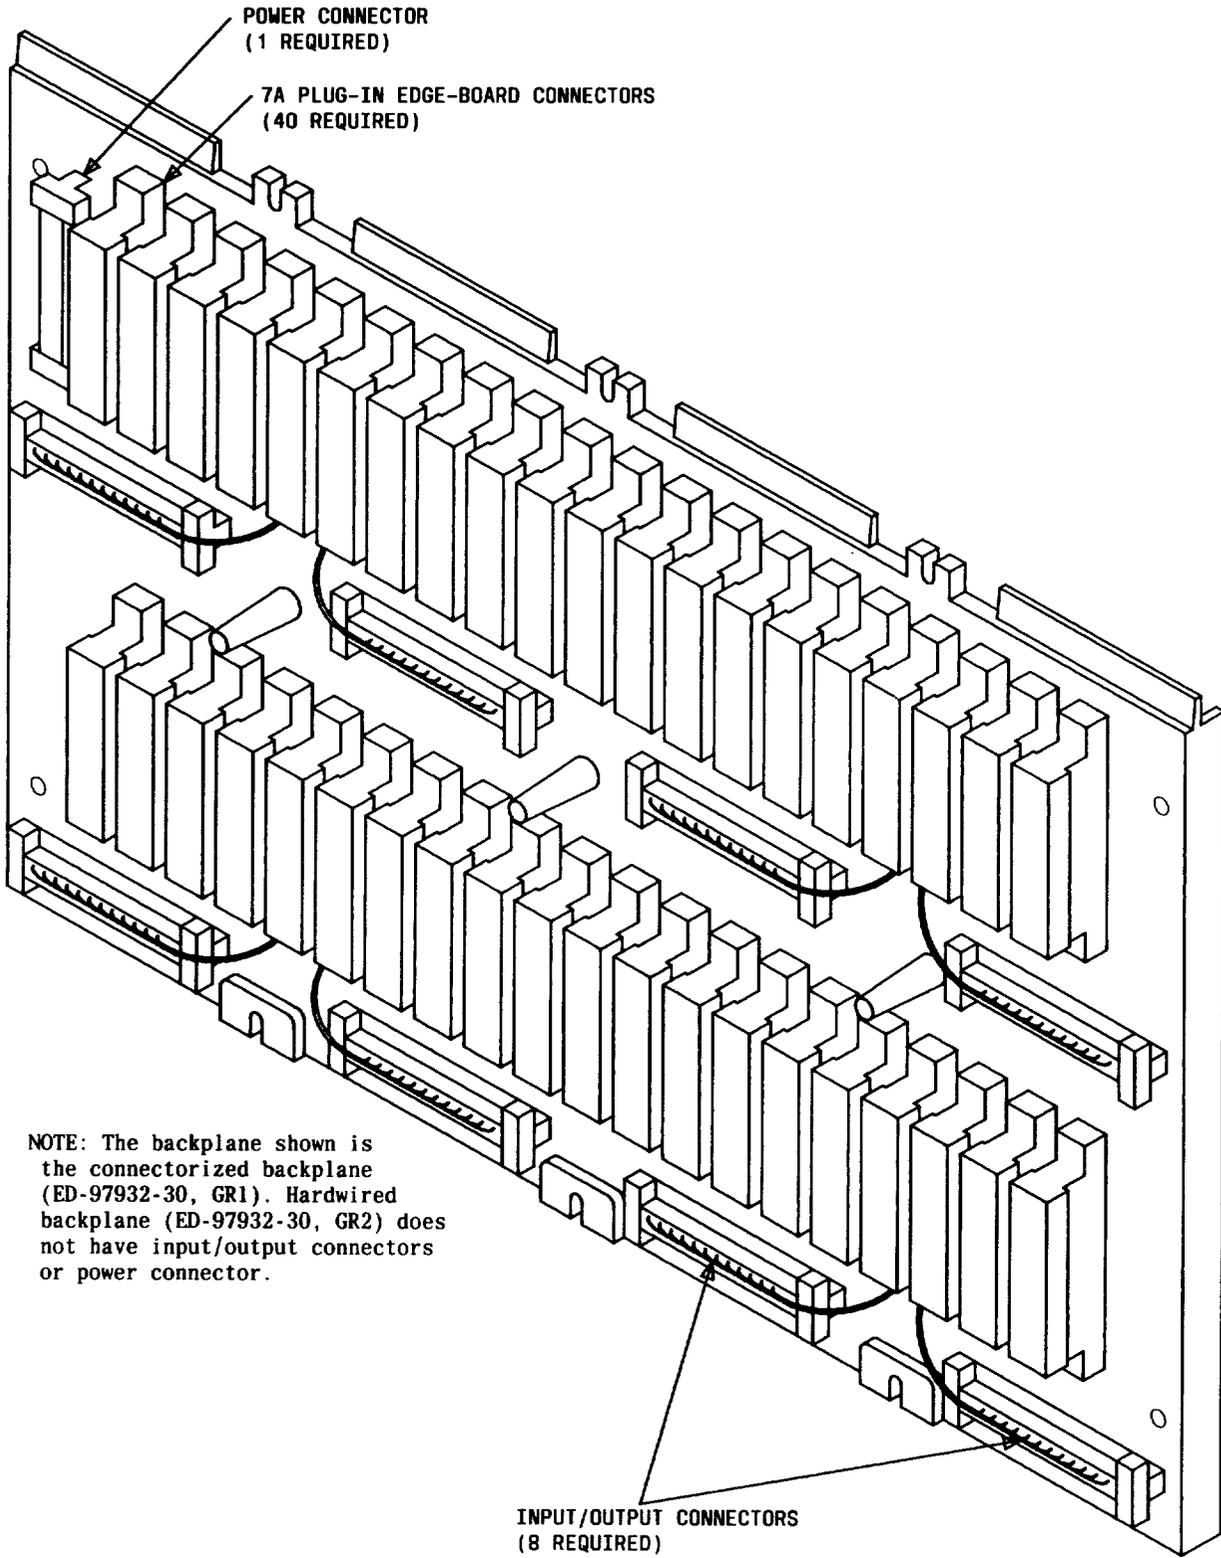

Fig. 2—Mini-REG Backplane (Note)
**2.05** The backplane is the rear section of the shelf assembly that has been equipped with edge-board connectors for plug-ins. Figure 2 shows the connectorized backplane assembly (ED-97932-30, GR1) which is rated Mfr Disc. The standard hardwired backplane assembly (ED-97932-30, GR2) looks like the connectorized backplane, except it does not have the input/output connectors or the power connector as shown in Fig. 2. A backplane will accommodate two mounting shelves; the assembly occupies 13 vertical inches of bay space. Front covers to enclose the 7A REG plug-ins are furnished with the backplanes.